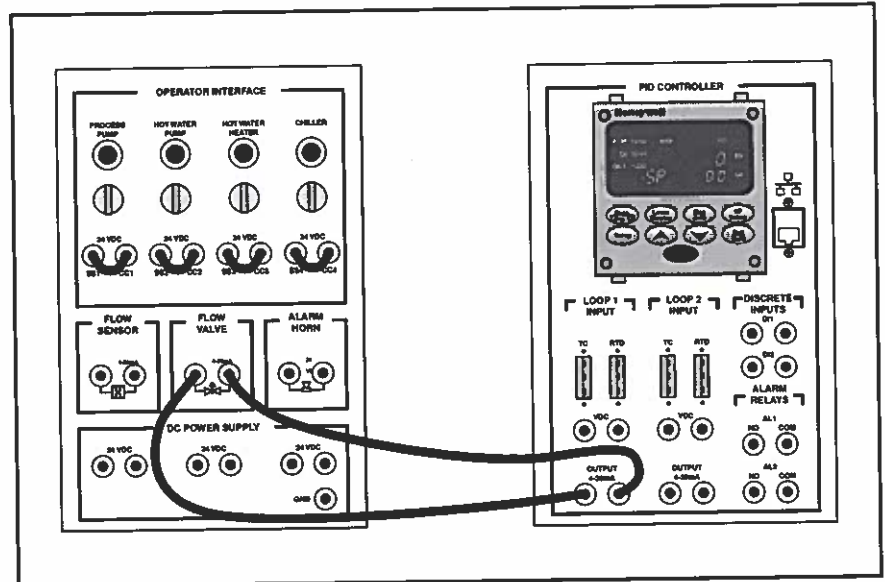
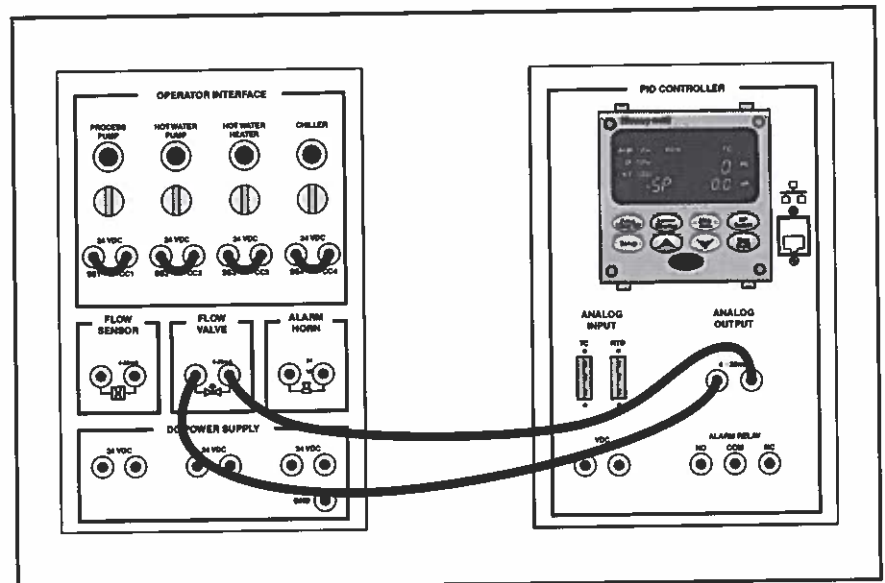

Figure 49. Hot Water Loop Manual Flow Control with Dual-Loop Controller
Figure 50. Hot Water Loop Manual Flow Control with Single-Loop Controller
- 3. If you are using the dual-loop controller, connect the circuit shown in figure 49. If you are using the single-loop controller, connect the circuit shown in figure 50.